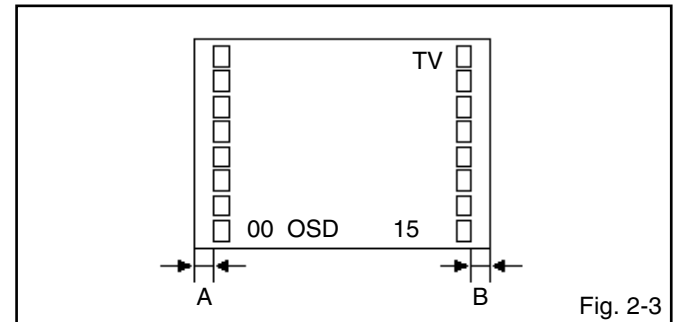

Fig. 2-3
2. Press the VOL. UP/DOWN button on the remote control until the difference of A and B becomes minimum. (Refer to **Fig. 2-3**)